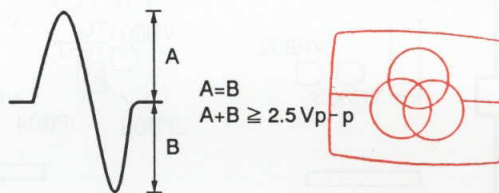

Figure 8
3. While watching the oscilloscope screen, press the PROGRAM key and observe the waveform in Figure 8 for a moment. Verify that the amplitude is at least  $2.5 V_{p-p}$  and that the positive and negative amplitude are about equal. Since the waveform is only output for a moment when the PROGRAM key is pressed, press this key over and over until you have checked the waveform.